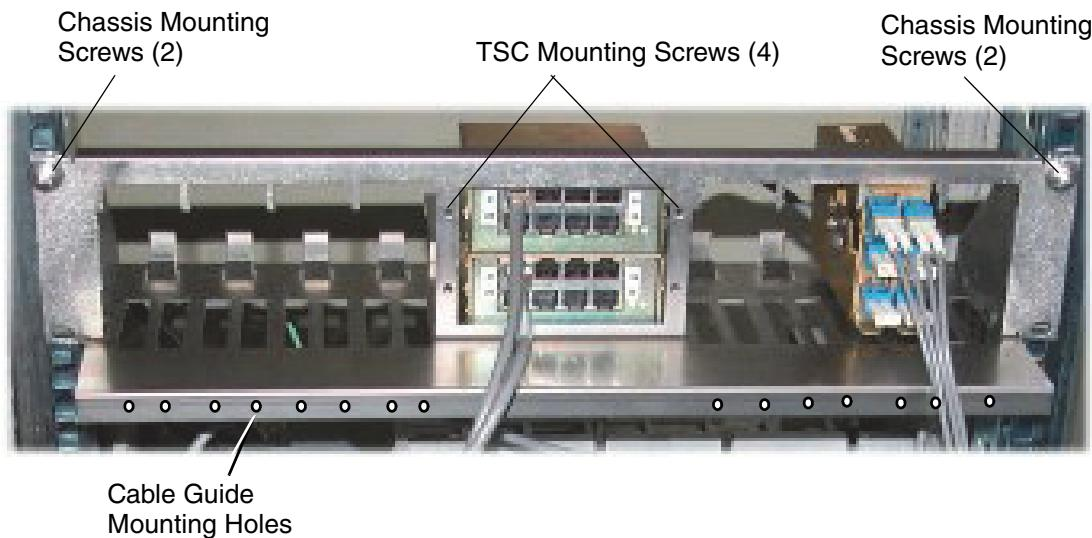
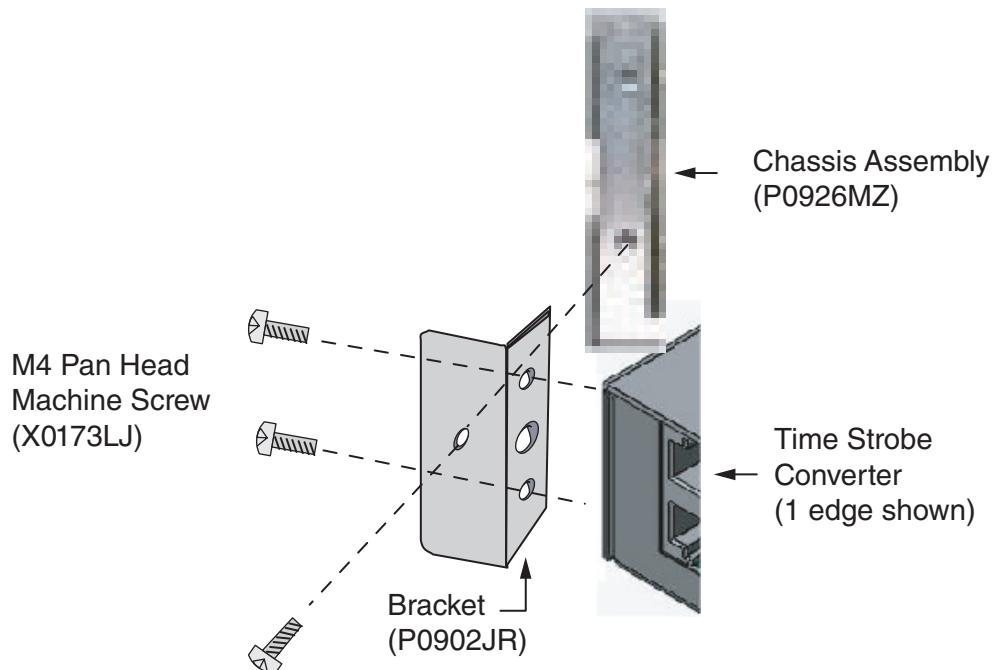

Figure 5-45. Time Strobe Converter Chassis Mount
Figure 5-46. Attaching Time Strobe Converter Bracket
The TSC can be mounted in a chassis assembly that is mounted on a 19-inch rack in an enclosure. The chassis assembly is mounted between and on two vertical 19-inch rails. Figure 5-45 shows the chassis assembly mounted in an enclosure.
1. Using two 8-32x1/4 pan head screws connect one bracket to the front side of each side of the time strobe converters (see Figure 5-46).
2. Insert the TSC module into the chassis assembly as shown in Figure 5-45. Insert the mounting screws (2) on each side of the chassis assembly into the TSC (see Figure 5-46). Tighten the mounting screws.